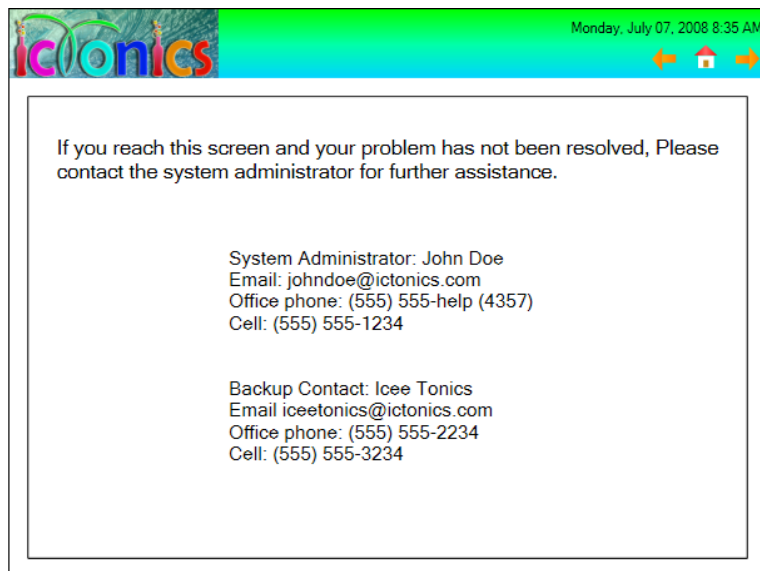

Figure L1.5 - Screen4
17. Repeat step 11, and name the group Screen4. Make Screen4 look similar to Figure L1.5. This will be the last screen in the sequence.